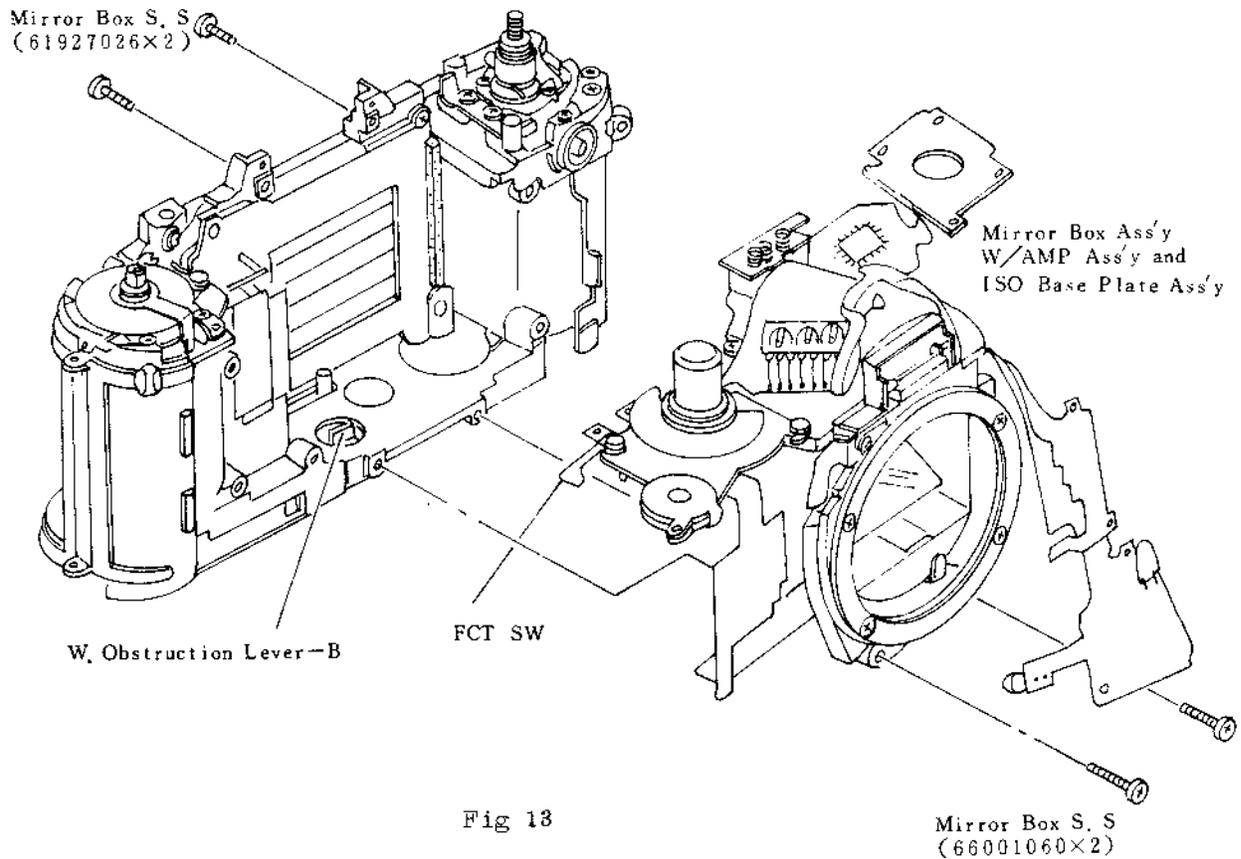

Fig 13
(Fig 13)
- Mount the Mirror Box parallel with front side of the camera body and Pin of ACL-1 (Fig 18) at the front of W.Obstruction Lever -B (Fig 13).